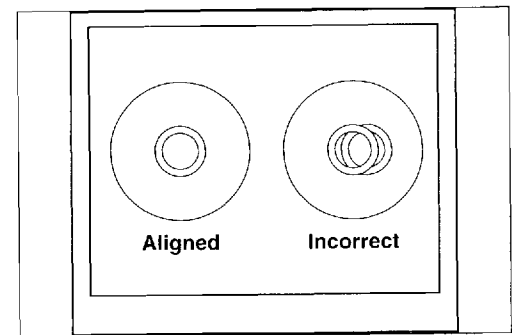
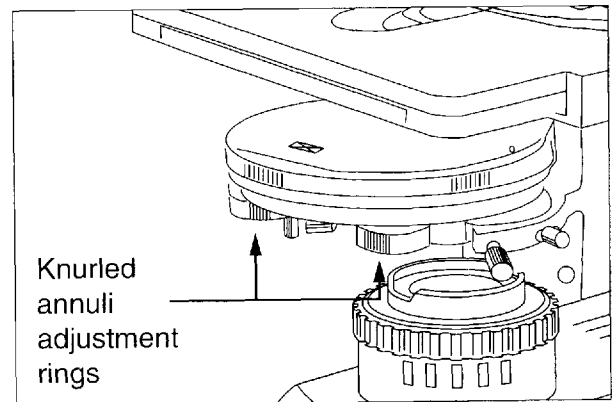

Figure 3
Figure 4
4. If the annuli are not centered as shown in Figure 3, rotate the knurled annuli adjustment rings on the bottom of the Zernike phase condenser with your fingers to adjust the phase condenser annulus with each phase objective as shown at right. (Fig.4)